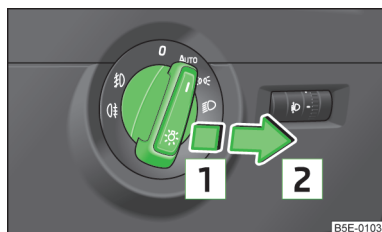

Fig. 32
- Turn the light switch to position **AUTO**, or » Fig. 32.
- Turn the light switch into position **AUTO** or or » Fig. 32 on page 52.